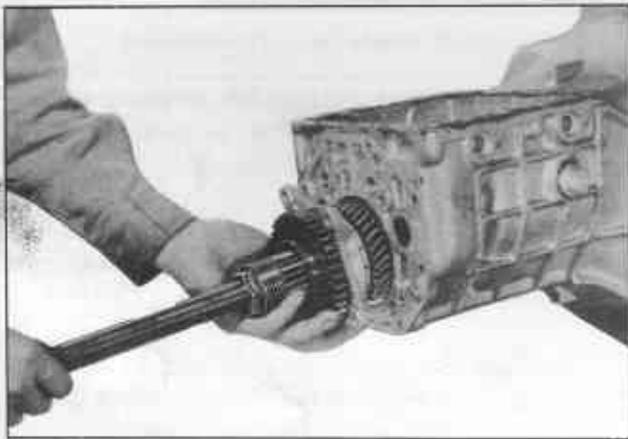

Fig. TM-45 Withdrawing main shaft assembly
13. Draw out the main shaft assembly as shown in Figure TM-45.